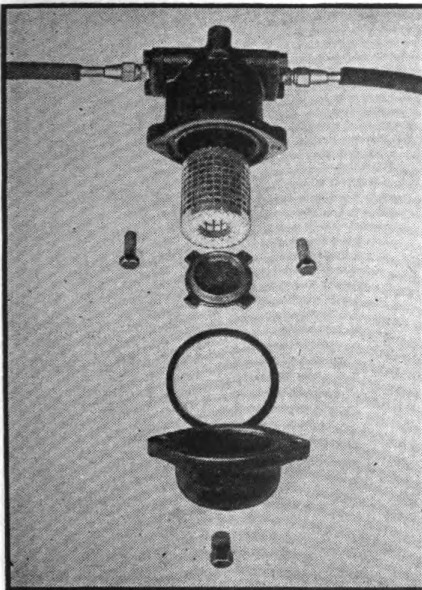
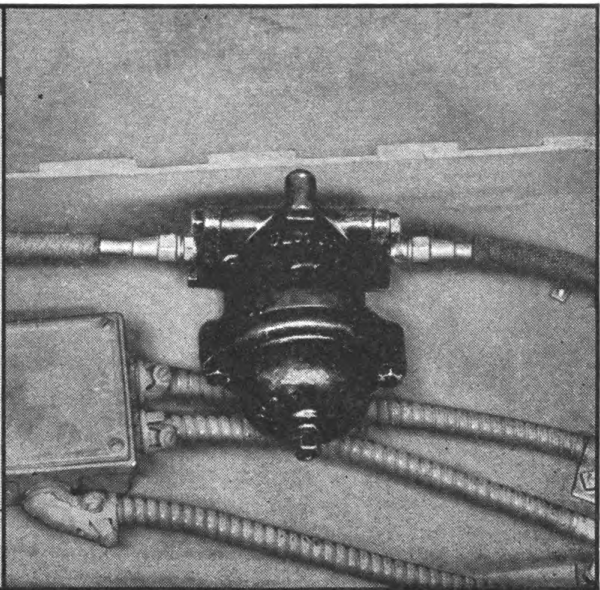

FIGURE 45. AIR FILTER—DISASSEMBLED.
FIGURE 44. AIR FILTER.
17. AIR FILTER.—*a. Function* (Fig. 44).—Air filters are mounted on underside of semi-trailer main frame, toward rear of unit near axle, one filter in service line and one in emergency line. Filter is designed to remove dirt, water, and oil from air, thereby increasing the life of the functional parts of the emergency relay valve.
c. Disassembly.—(1) Disconnect the lines leading into the filters. Remove the two bolts holding filter to bracket.
(2) Remove the two cap screws (1) holding cup (2) to upper section of filter. Tap down on cup, separating cup from upper section.
(3) Remove rubber gasket (3); remove cleaner seat (4) and pull out cleaner (5) (Fig. 45).